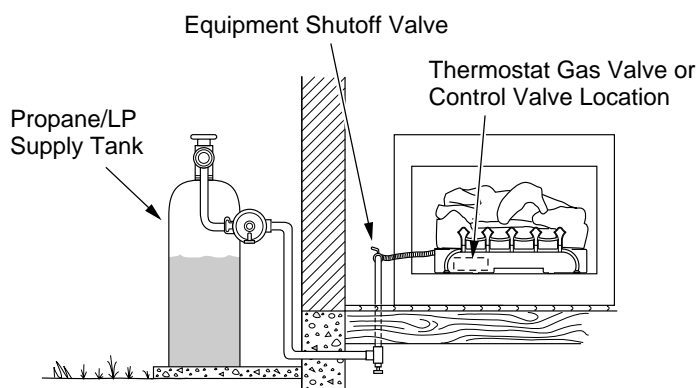

Figure 17 - Checking Gas Joints (Propane/LP only)
3. Check all joints from gas meter for natural or propane/LP supply to equipment shutoff valve (see Figure 17 or 18). Apply a noncorrosive leak detection fluid to all joints. Bubbles forming show a leak.
4. Check all joints from equipment shutoff valve to thermostat gas valve (Thermostat-Controlled Models) or control valve (Remote-Ready Models) (see Figure 17 or 18). Apply a noncorrosive leak detection fluid to all joints. Bubbles forming show a leak.